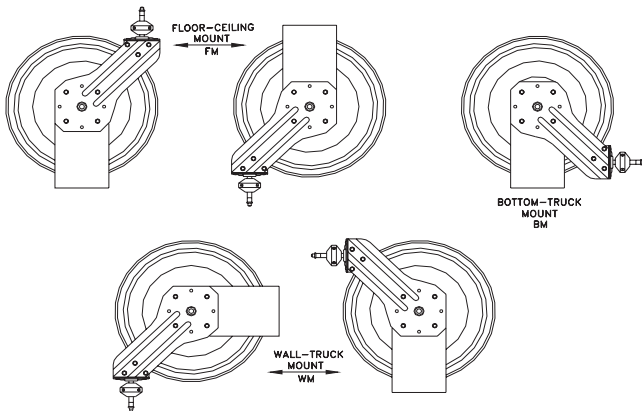
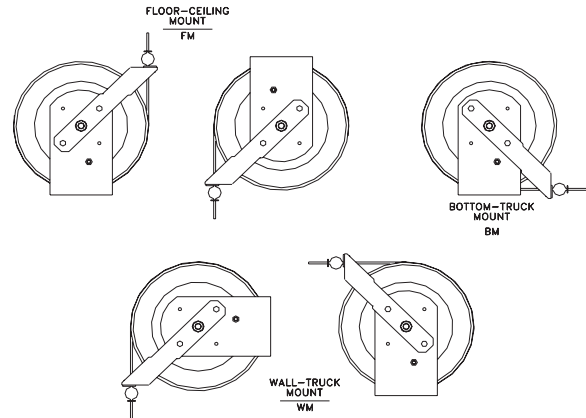

Fig. 1.0
Fig. 2.0
- Guide arm may be adjusted to desired location as shown in figure 1.0. Refer to figure 2.0 for Series models.